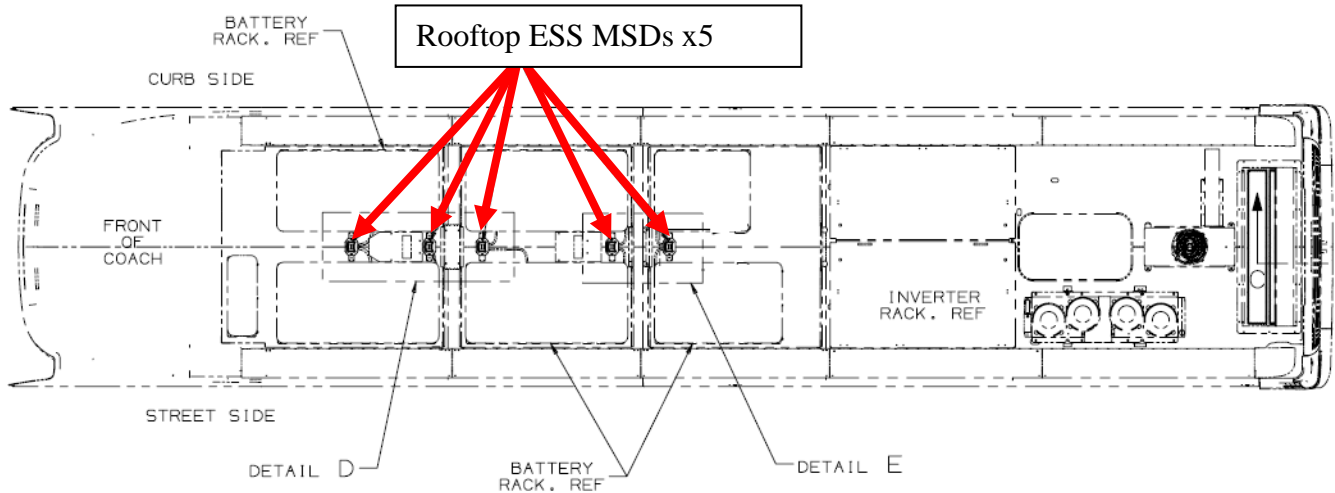

Figure 21: Rooftop ESS locations
3.5 Locate rooftop MSDs in figure 21.